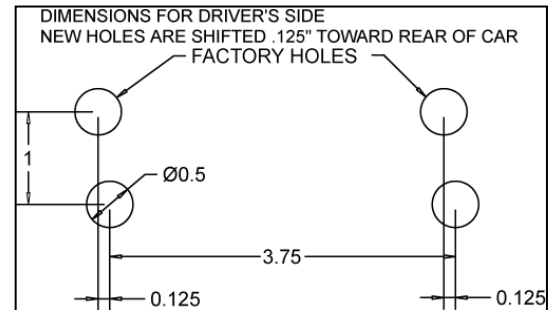

Figure 2-5
- b. If performing modification without TCP Drill Jig, drill holes as illustrated. (Figures 2-5 & 2-6).